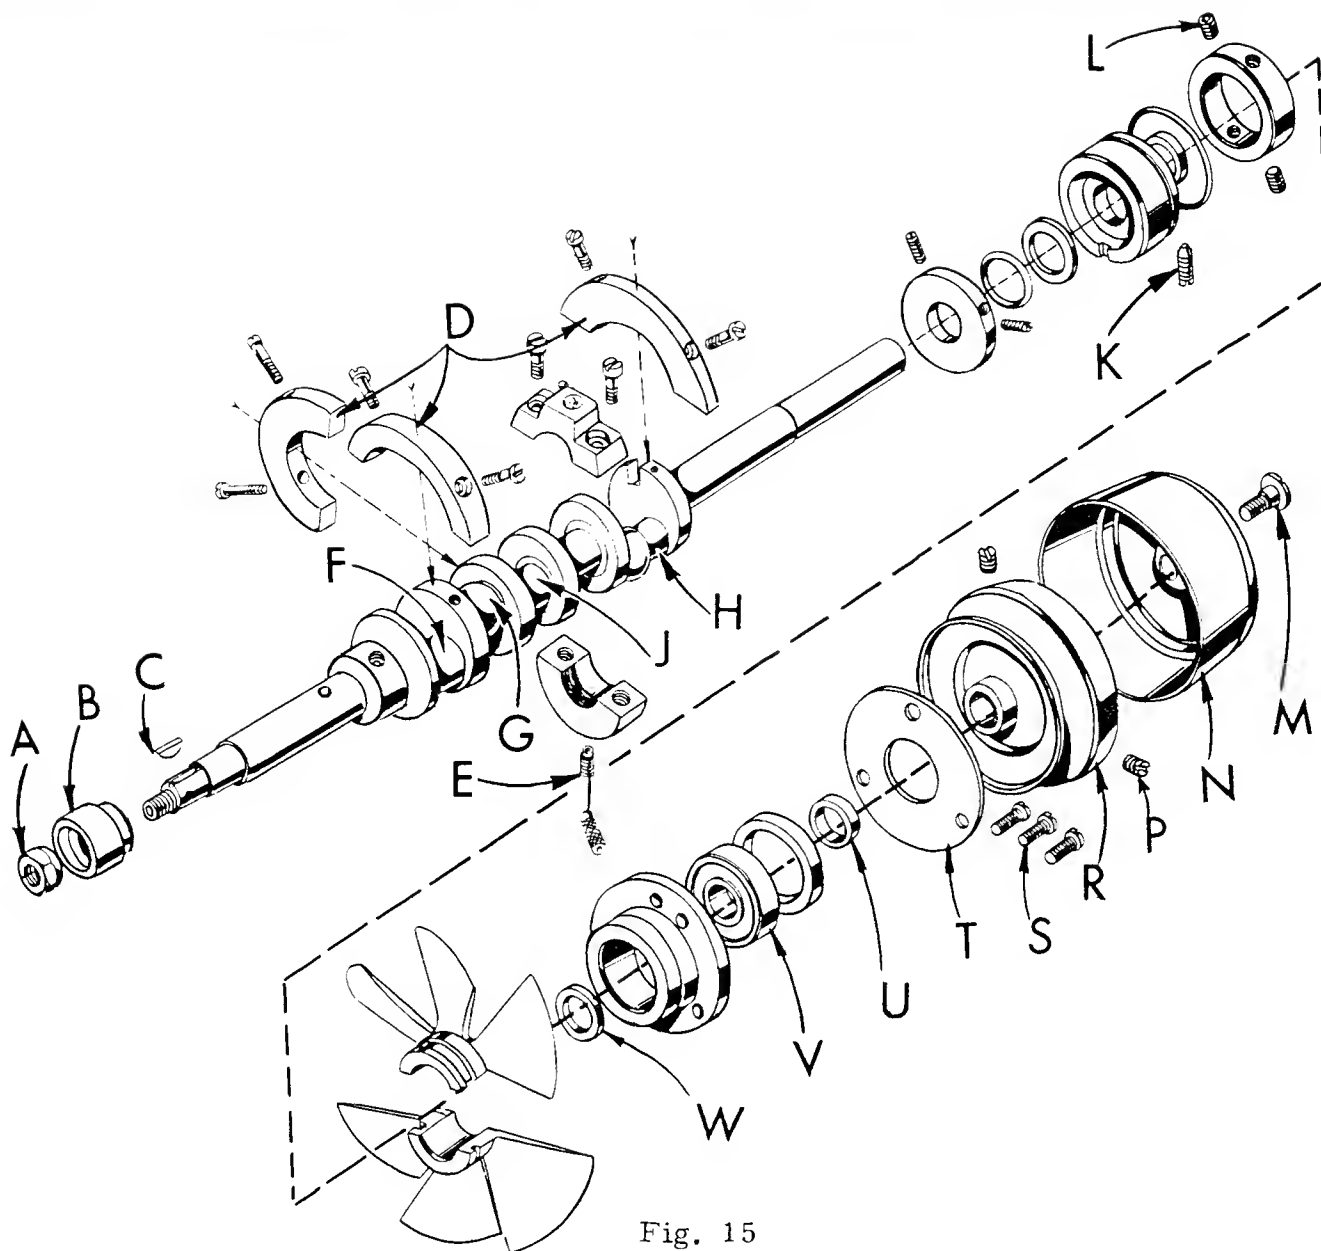
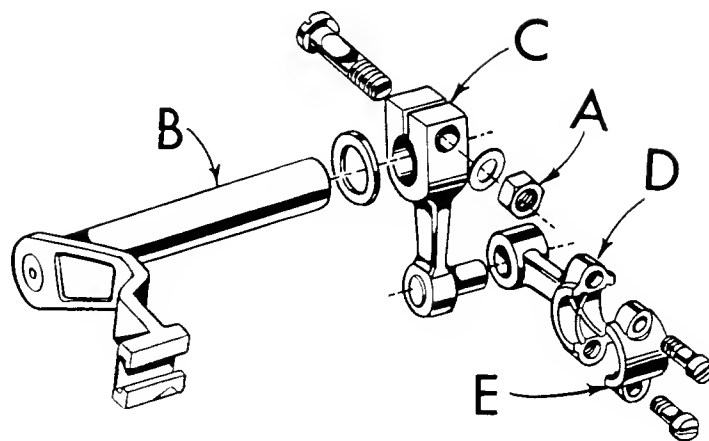

Fig. 15
Fig. 16
3. Remove feed eccentric nut (A, Fig. 15) and remove the eccentric (B).
4. Remove key (C).
5. Remove three counterweights (D). Identify these counterweights so that they will be re-assembled in the proper places.
6. Unscrew oil tube (E) which holds crankshaft split bearing and oil pump. This tube is reached through bottom of bed casting.
8. Loosen clamp nut (A, Fig. 16) which holds upper knife driving arm (B). Access to clamp nut is through top cover. Draw driving arm to the left until upper knife driving lever (C) and connecting rod (D) drop, allowing removal of bearing cap (E). This is at bearing point (J, Fig. 15) on crankshaft. Observe same precautions when re-assembling cap as described in 7 above.
9. Remove screw (K, Fig. 15) which holds inner right crankshaft bearing. This screw is reached through bottom of bed casting.
10. Loosen two screws (L) in fan collar; remove both halves of cooling fan.
11. Remove screw (M); take off pulley cap (N).
12. Loosen two screws (P); remove pulley (R).
13. Remove three screws (S); take off bearing retaining plate (T); also, spacer collar (U) may be removed at this time.
15. If necessary to replace ball bearing (V), it should be pressed off shaft on an arbor press. In replacing bearing it must be pressed on carefully until it seats against ground thrust washer (W).